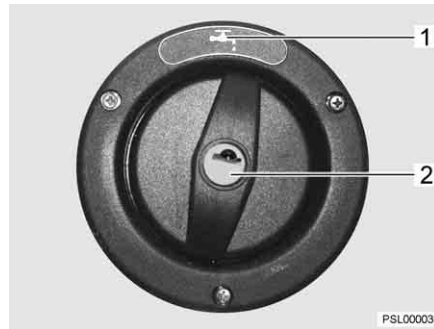

Fig. 68 Cap for the drinking water filler neck
- ▷ The drinking water filler neck is indicated by the symbol "☞" (Fig. 68,1).
- Insert the key in the locking cylinder (Fig. 68,2) and turn it in an anticlockwise direction.